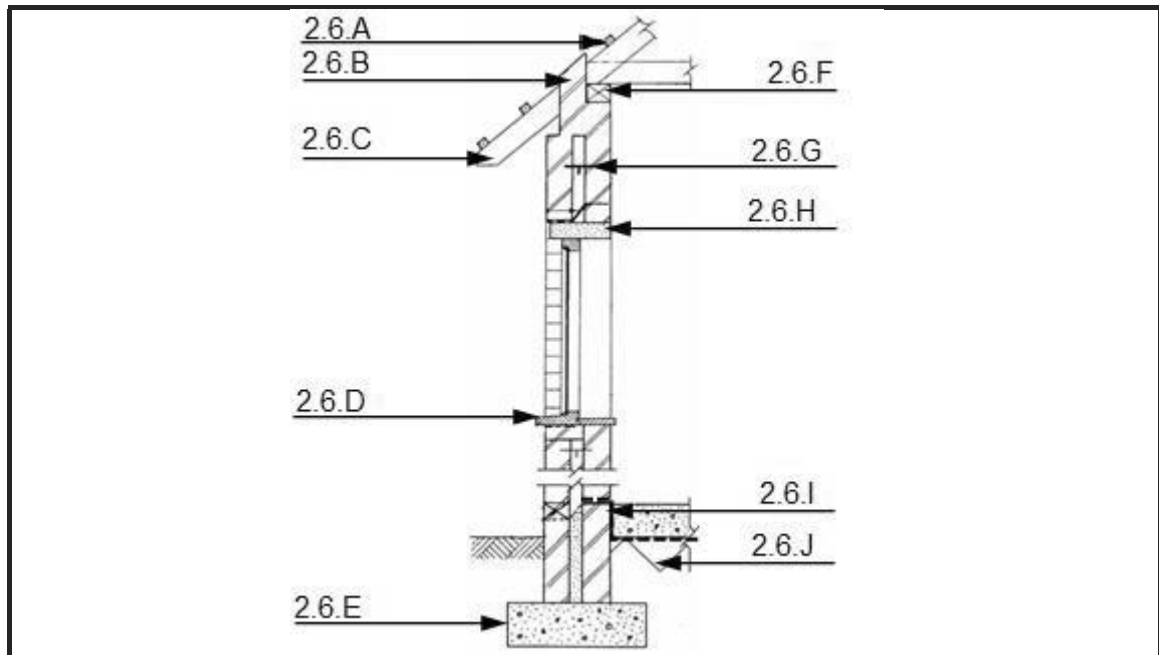

FIGURE 2.6
Answer the following questions with regard to the elevation in FIGURE 2.6.
2.6 OF FIGURE 2.6